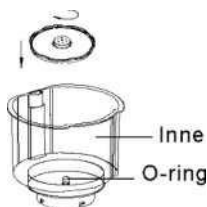

Figure 7
2) Screw the filter tightly on the bottom of the Inner barrel (Figure 7)